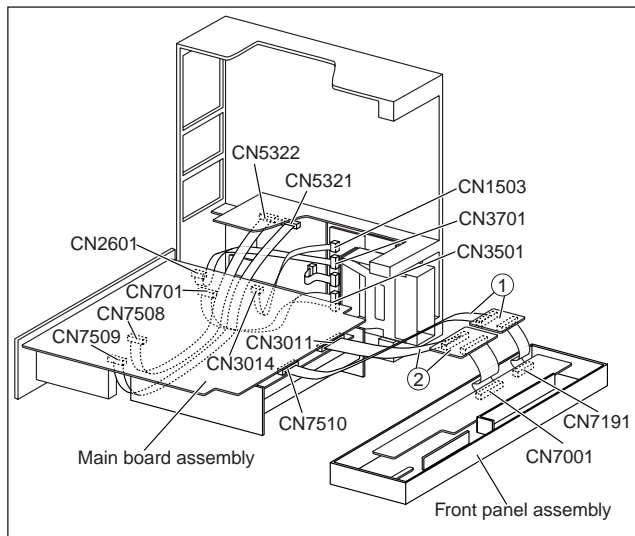

Fig. 1-8-1
- (2) Connect FPCs and wires accordingly in Fig. 1-8-1.